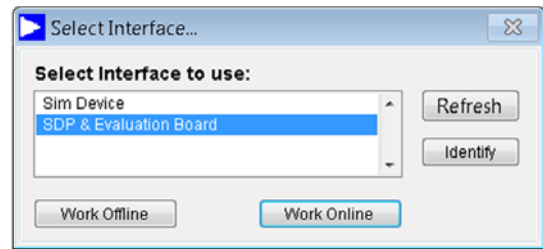
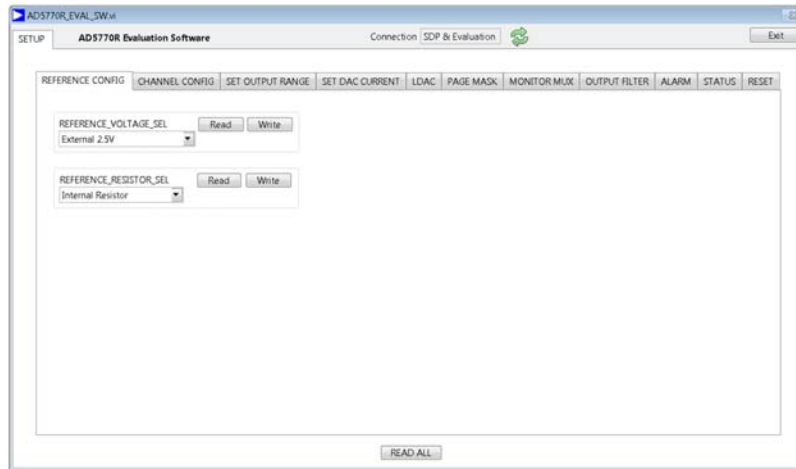

Figure 4. Select Interface Window
Figure 5. AD5770R Evaluation Software Main Window
1. From the **Start** menu, click **Analog Devices > AD5770R > AD5770R Evaluation Software**. The main window of the software opens (see Figure 4), and the software recognizes the EVAL-AD5770RSDZ board. The user can identify when the software has recognized the evaluation board by seeing **SDP & Evaluation** in the **Connection** section of the pane in Figure 5.
2. The software opens a window that prompts the user to select an interface (see Figure 4). Connect to the EVAL-AD5770RSDZ board by clicking **SDP & Evaluation Board** and then clicking **Work Online**. To run the software without connecting the EVAL-AD5770RSDZ board, click **Sim Device** and then click **Work Online**. This mode allows users to examine the various tabs in the GUI without communicating with a device.